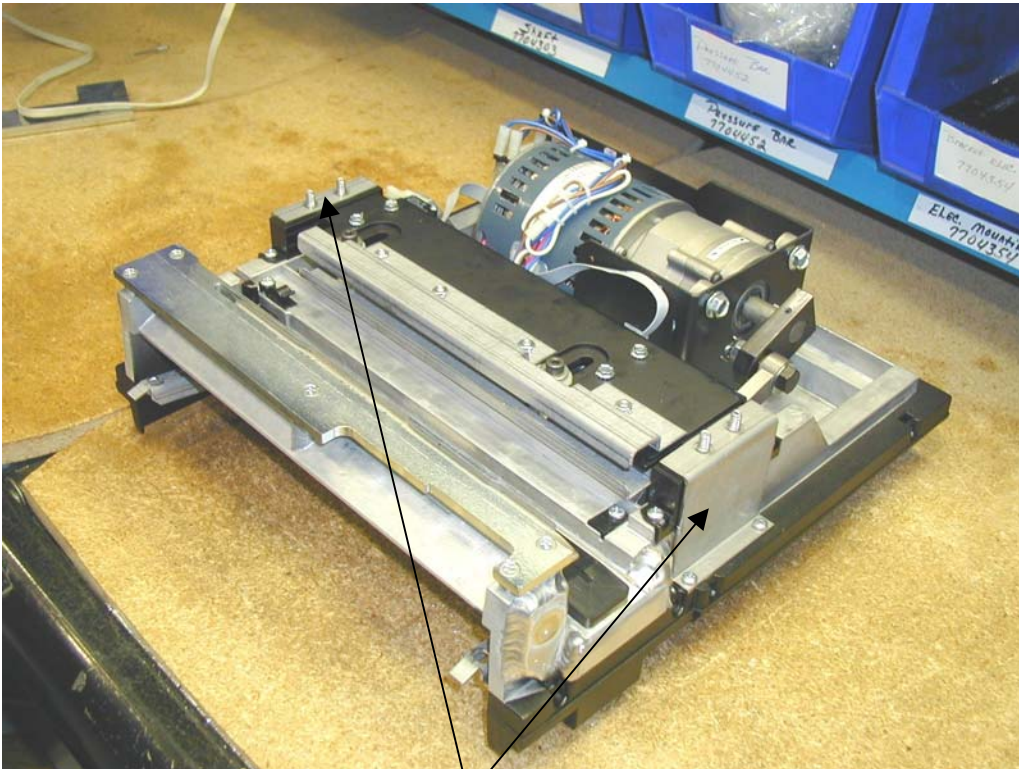

Figure 1 Z Brackets with Studs
2. Remove the qty. (4) 10-32 socket head cap screws that hold the rear housing in position.
4. Remove the qty. (4) 10-32 socket head cap screws that hold the front housing in position.
6. Remove the qty. (4) Phillips screws that secure the qty. (2) Z Brackets in place.
7. Remove the qty. (2) Z Brackets from the machine.
8. Install the qty. (2) new Z Bracket with studs on the base casting using qty (4) Phillips screws. Installation of the new Z Brackets are shown in Figure 1.